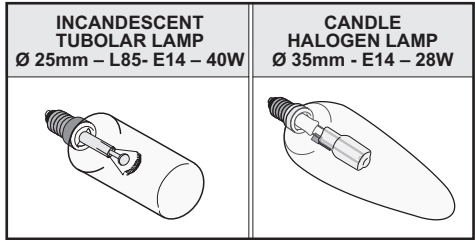

Fig.6B
• Replacing the halogen/incandescent lamps (Fig.6B):